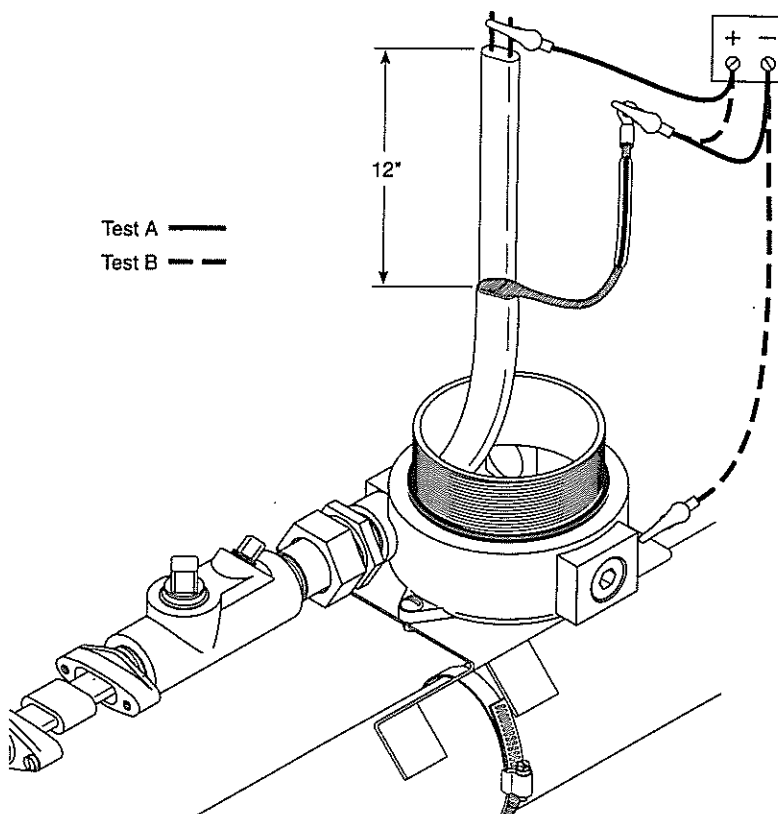

Figure 1. Insulation Resistance Test
11. Following the test method outlined in Section 5.10.2 (and illustrated in Figure 1 of that section), perform an insulation resistance test on the heating cable. Record these readings in the "Insulation Resistance Testing" section of the FM Required Division 1 Installation Record, which is Appendix F of this manual.
Note: Make sure the insulation resistance testing is completed prior to pouring seals. Refer to Step 11 and Section 5.10.2, Figure 1.